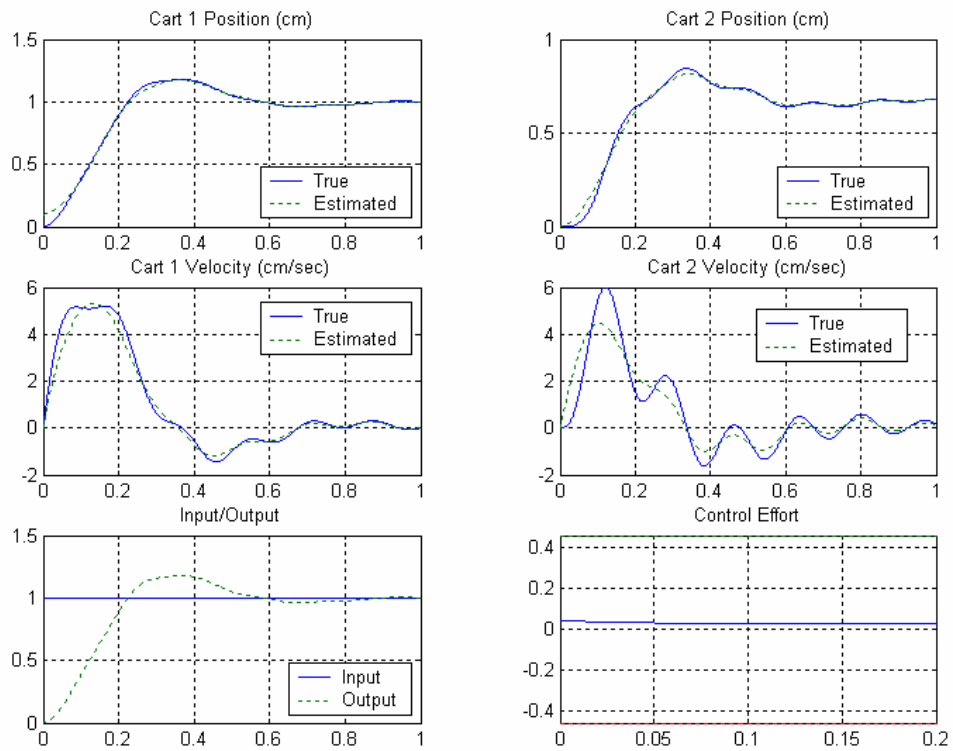

Figure 4. Results for 4b.
b) If the observer poles are also at \mathbf{p} , the position of the second cart is the only output available to the observer, and we are controlling the position of the first cart, you should get the response shown in Figure 4.